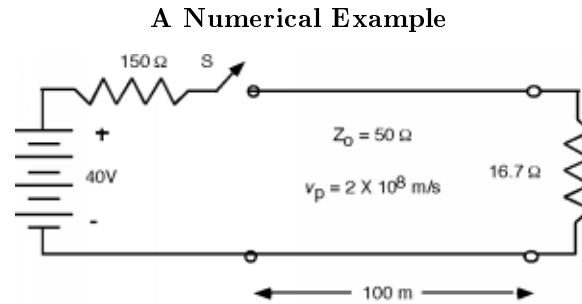

Figure 5.25
and then work out the answers. Let's let $V_S = 40\text{ (V)}$, $R_S = 150\text{ (}\Omega\text{)}$, $Z_0 = 50\text{ (}\Omega\text{)}$ and $R_L = 16.7\text{ (}\Omega\text{)}$. The line will be 100m long, and $v_p = 2 \times 10^8 \frac{\text{m}}{\text{s}}$ Figure 5.25 (A Numerical Example).